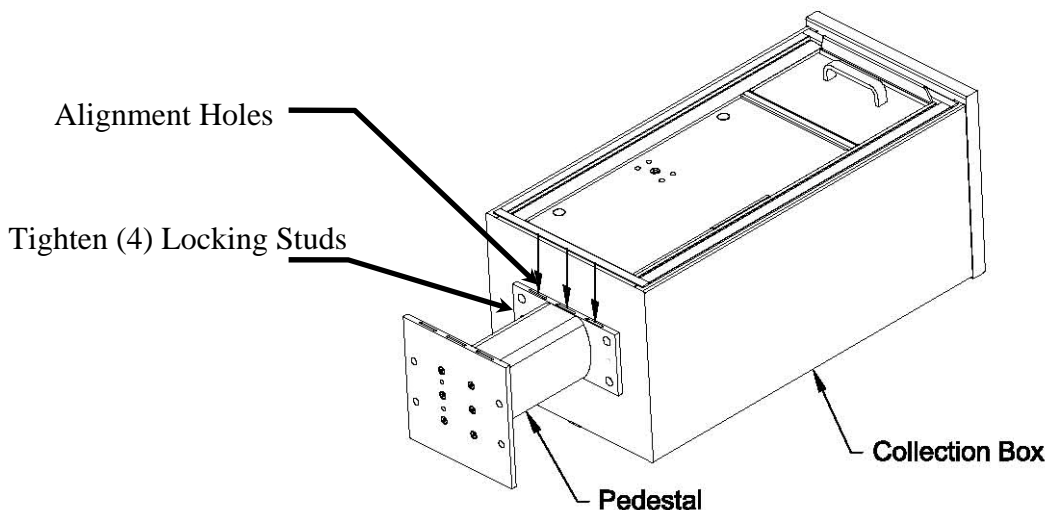

Figure 2 – Secure Pedestal to Cabinet by Setting Locking Studs
- c) Once pedestal is all the way in - push pedestal down until it locks into place. (See Figure 2)